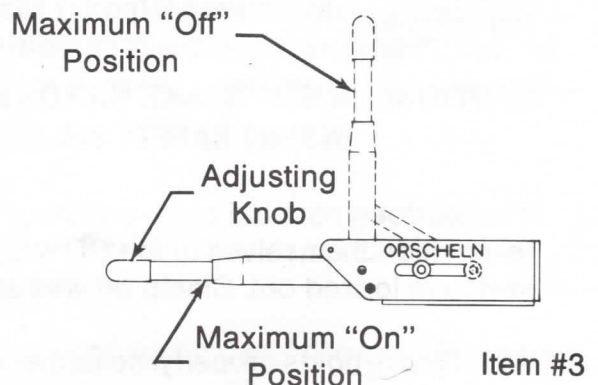

Fig. 32
3. Release brake and disconnect vertical rod (Item #1) from brake lever (Item #2). Wire (Tool #1) Orscheln hand lever (Item #3) in maximum "off" position, Fig. 32.
7. Move Orscheln hand lever to maximum "on" position. Rotate hand lever adjusting knob, Fig. 32, page 41, until handle breaks over just as brake is firmly set.